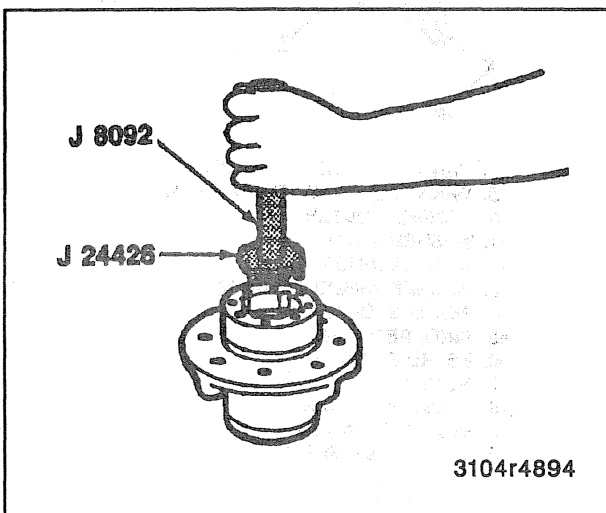

Figure 29—Removing the Outer Bearing and Cup
5. Outer bearing using J 8092 with J 24426 (figure 29).